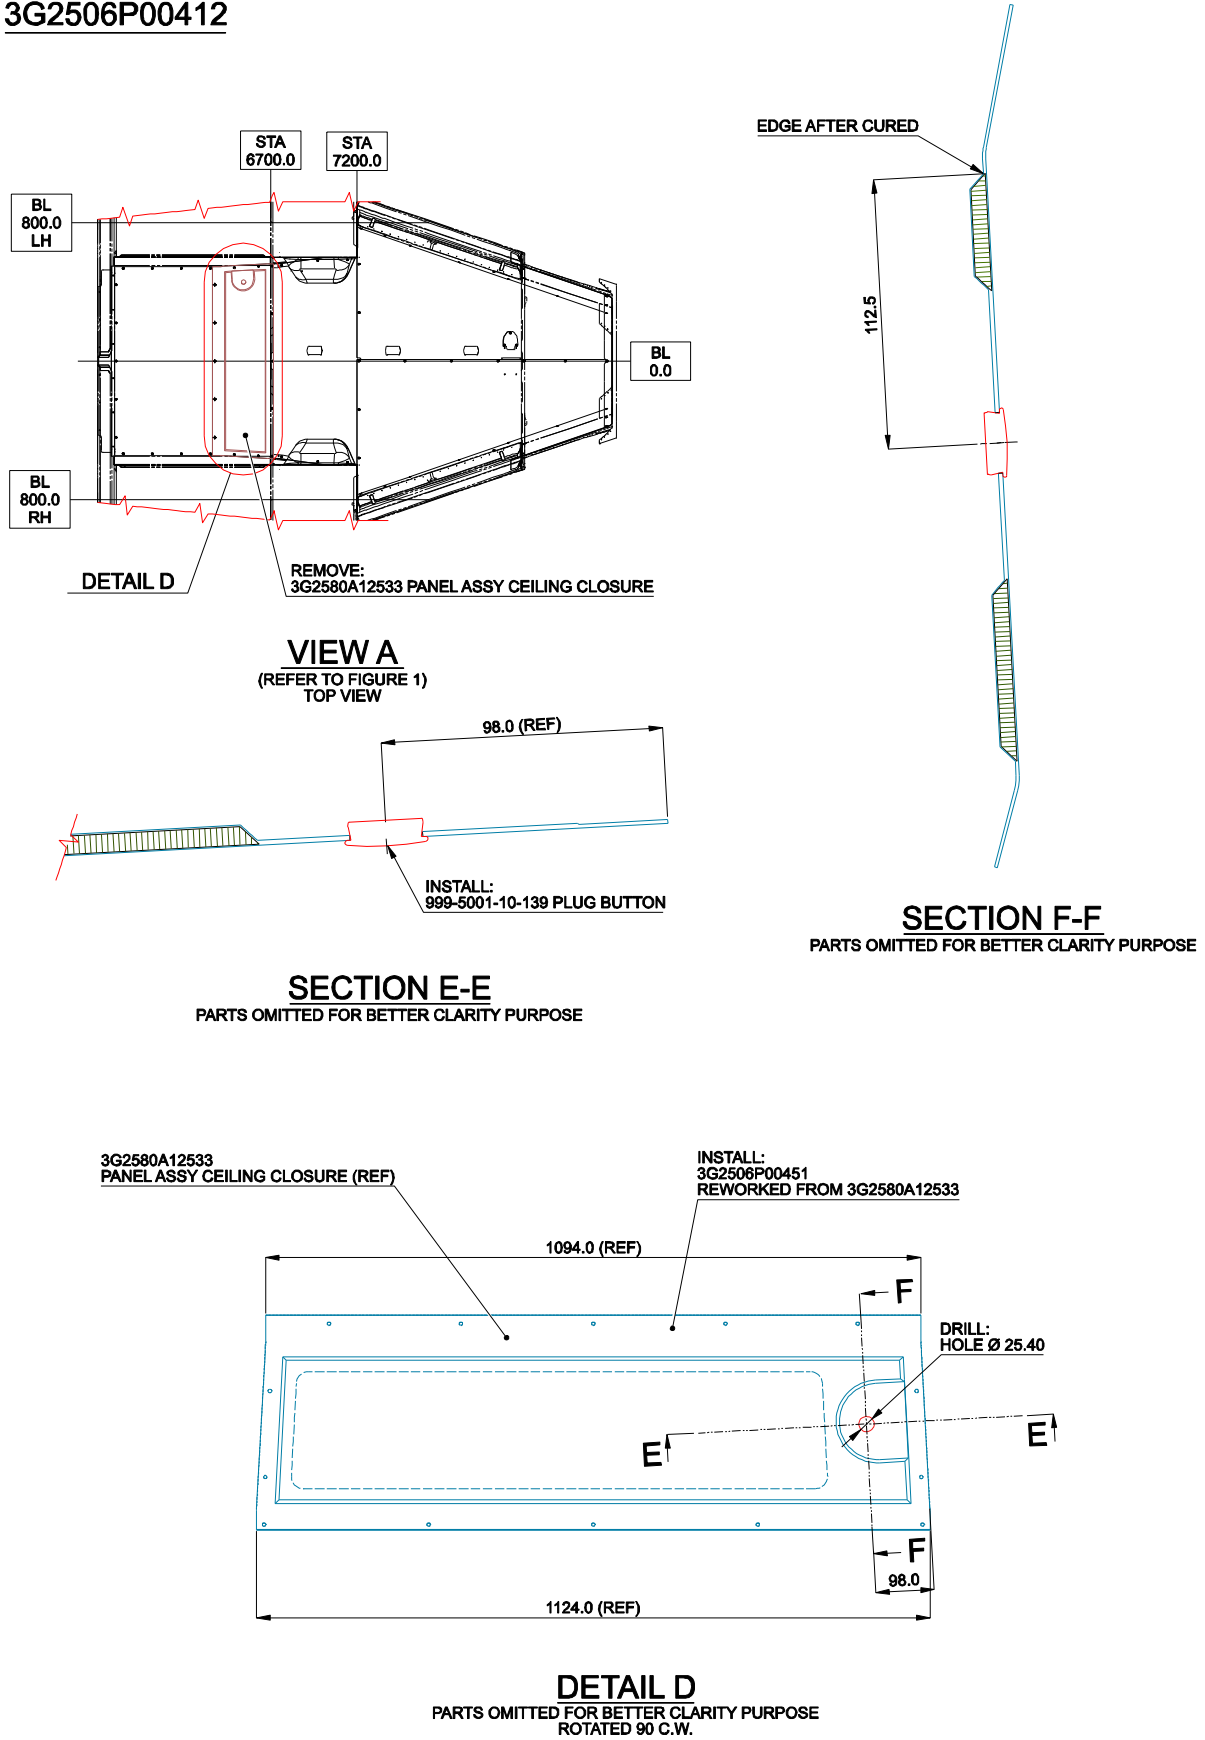

Figure 2
- 4.25 With reference to Figure 2 Detail D, install the panel assy ceiling closure rework P/N 3G2506P00451 by means of existing hardware previously removed.